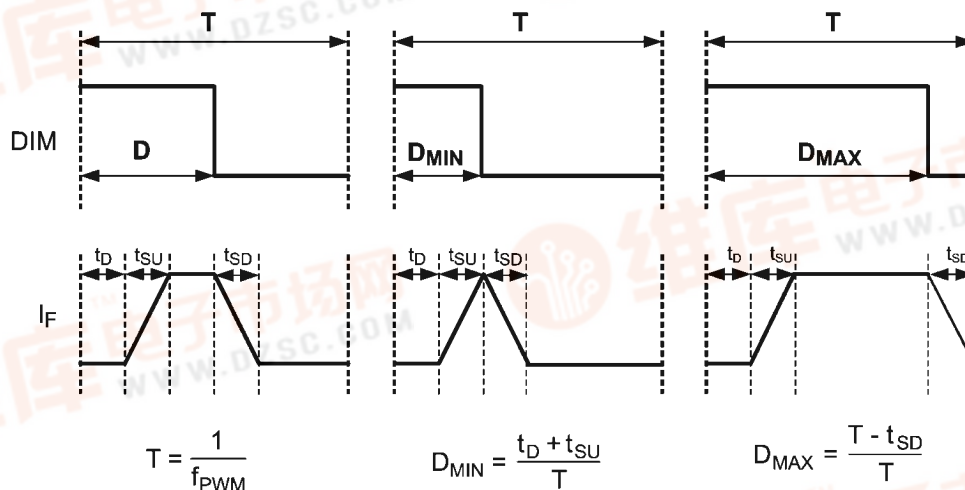

FIGURE 4. PWM Dimming Limits
The **DIM1** terminal on the PCB provides an input for a logic-level pulse width modulation signal for dimming of the LED array. In order to fully enable and disable the LM3406 the PWM signal should have a maximum logic low level of 0.8V and a minimum logic high level of 2.2V. Graphical representations of minimum and maximum PWM duty cycle are illustrated in *Figure 4*. The interval  $t_D$  represents the delay from a logic high at the DIM pin to the rise in output current. The quantities  $t_{SU}$  and  $t_{SD}$  represent the time needed for the output current to slew up to steady state and slew down to zero, respectively. It is important to note that  $t_D$  is a property of the LM3406 and remains fixed in all applications. The slew rates  $t_{SU}$  and  $t_{SD}$  are a function of the external circuit parameters  $V_{IN}$ ,  $V_O$ ,  $I_F$ , inductance (L) and the LM3406 parameter  $t_{OFF-MIN}$ . Response times for a circuit driving three white LEDs at 1A from 24V are shown in the Typical Performance Characteristics section, but the user should test every new circuit to determine the actual PWM dimming response.